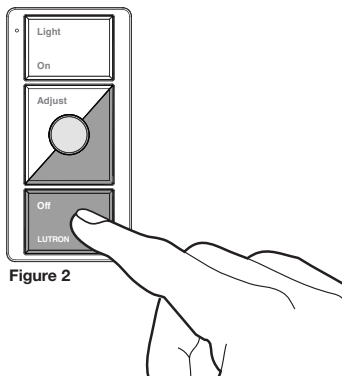

Figure 2
- 2 Press and hold the Off Button on the Wireless Controller (Figure 2) for approximately 6 seconds.